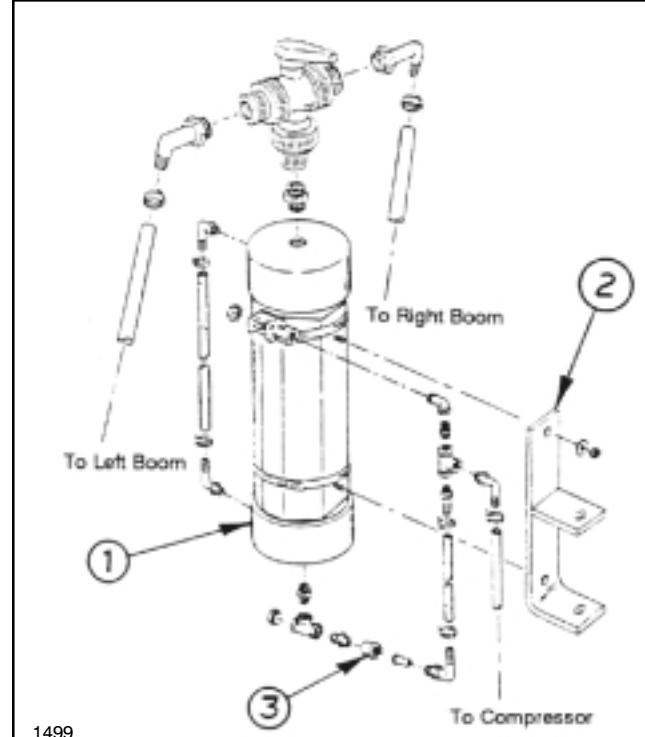

FIG. 2
14. Mount the foam marker tank bracket to the rear of the passenger seat frame with the carriage bolts and nuts previously removed. See FIG. 2.
15. Assemble the tank complete as shown in FIG. 2.
22. Connect the hose from the compressor to the hose barb in the tee on the side of the foam tank and secure with a hose clamp (FIG. 2).
24. Connect the (2) boom hose to the hose barb in the control valve on top of the foam tank. Secure with hose clamps (FIG. 2). Mark the hoses as left and right for boom connection.